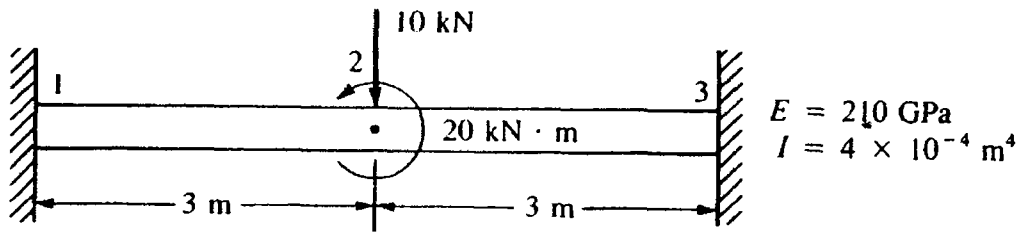

Figure Q4[a]
- Q4. [a] For the beam shown in Figure Q4[a], with the node numbers 1-2-3, determine